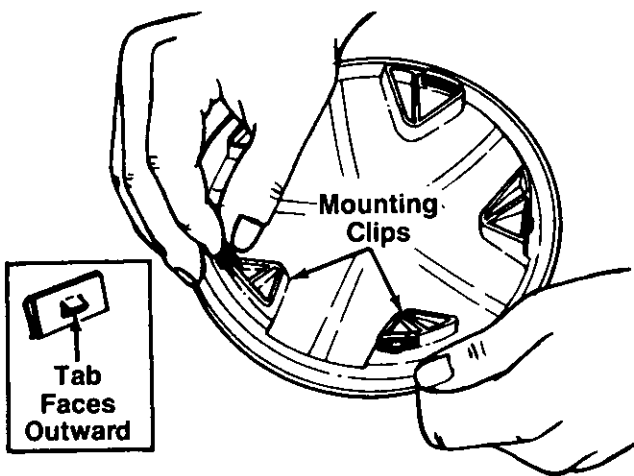

FIGURE 11.
- a. Slide five mounting clips on each hub cap as shown in figure 11, with the tabs on the mounting clips facing outward.